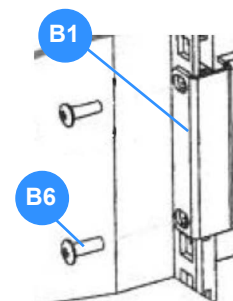

Figure 3.8 Rear fixing
2. Align the two holes in the back of the mounting rail with the holes in the vertical fixing rail on the back of the rack (see Figure 3.8).